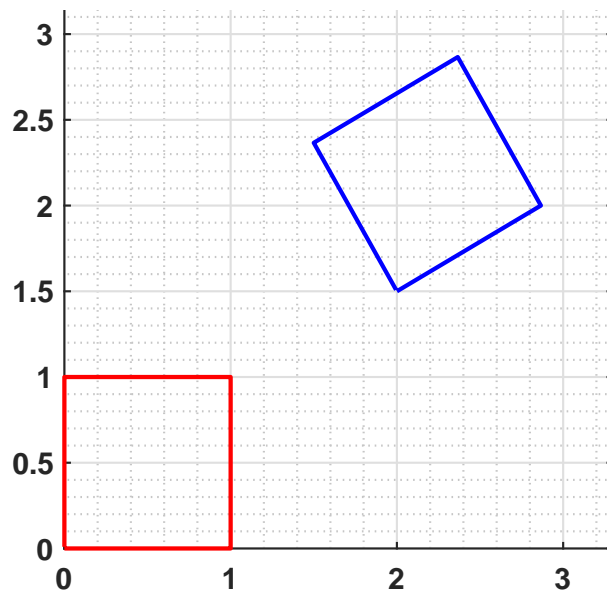

Figure 4: Red square is rotated and translated to obtain blue square
- (a) Find the 4×4 homogeneous transformation that corresponds to the motion of the red square in Figure 4 to the blue square. You can accurately read the coordinates of the
- (b) Verify that your found transformation is indeed correct by applying your transformation to the points of red square in MATLAB. Each point of the red square can be viewed as a vector, which is displaced by your homogeneous transformation. A MATLAB file `hw1_q2` is provided to you, you'll apply your transformation in the code at the indicated location, and if it is correct then the script should recreate Figure 4.